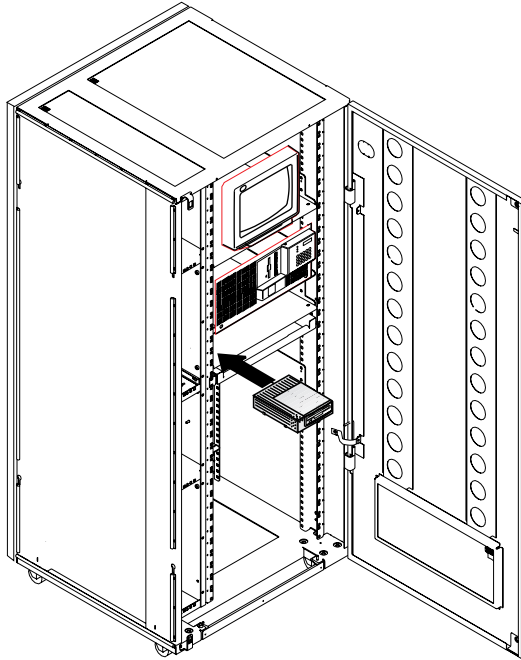

Figure 1-14. Installing the Optical Drive
17. ____ Install the optical disk drive in the controller expansion as shown in Figure 1-14, then **go to step 19** .